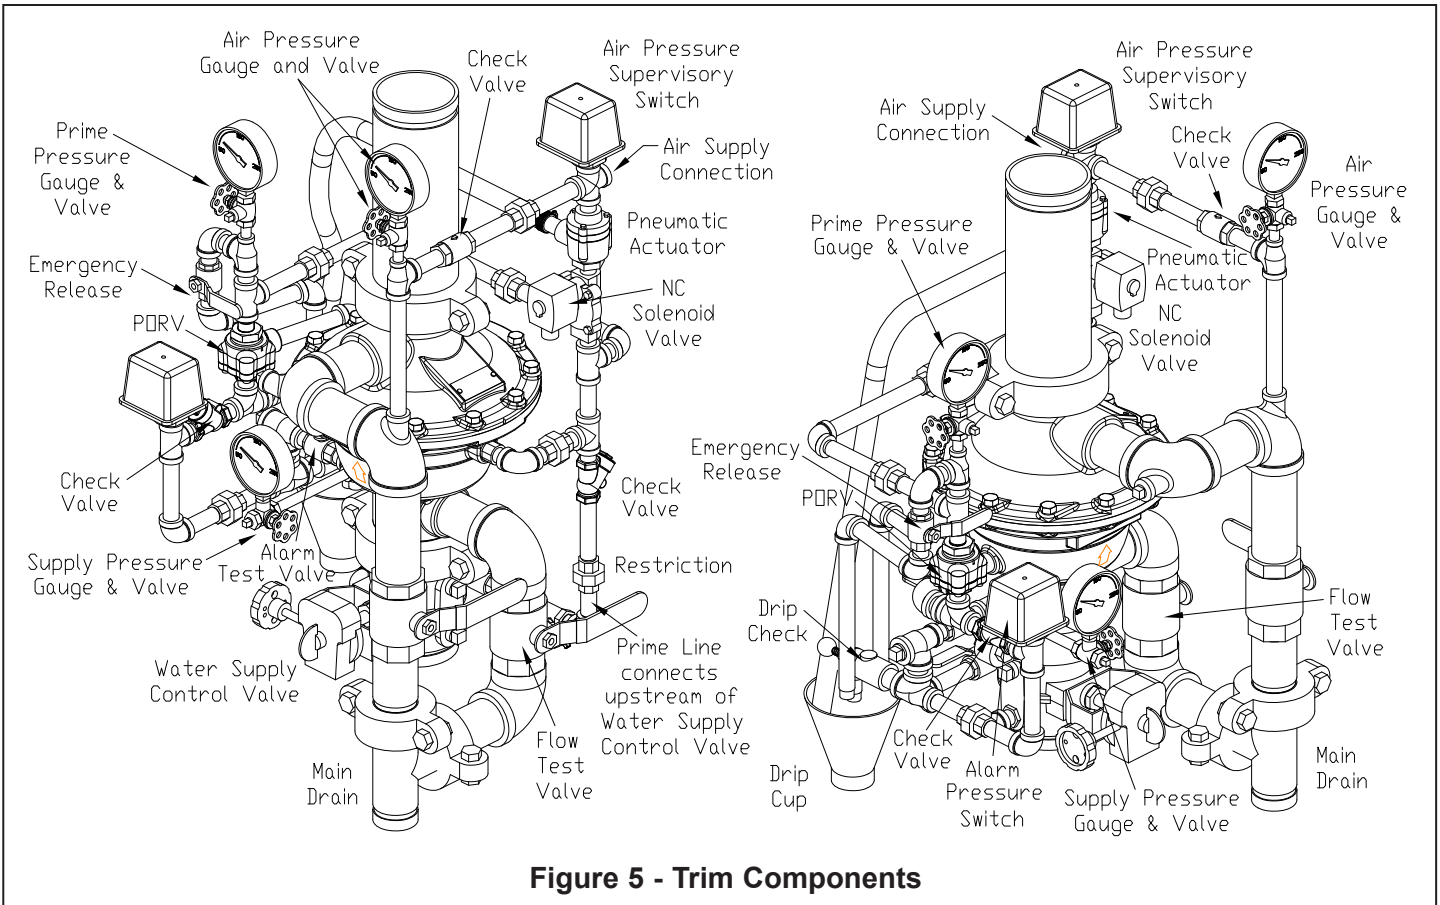

Figure 5 - Trim Components
F. Placing the Valve in Service: (Refer to Figure 5)
A. Low Air Pressure Alarm Test: (Refer to Figure 5.)
B. Full Flow Trip Test: (Refer to Figure 5)
A. Taking the system out of service: (Refer to Figure 5.)